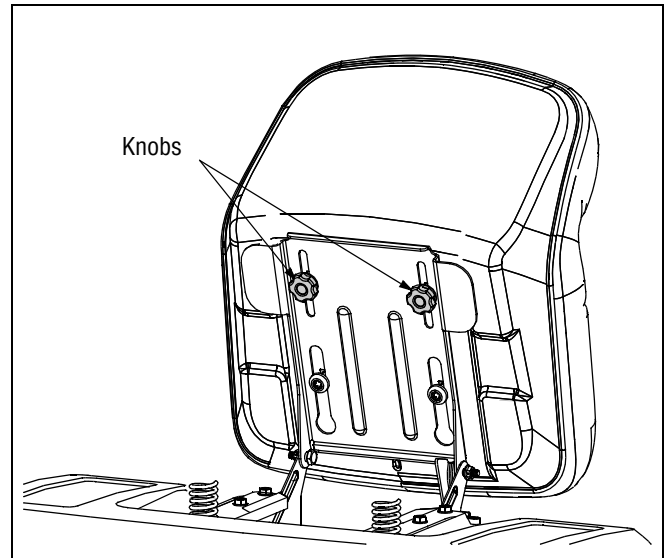

**Figure 11**
- Looking at the transmission from the right side of the tractor, locate the compression spring and brake disc. See Figure 11.
- Loosen, but do NOT remove, the hex nut found on the right side of the brake assembly. See Figure 11.